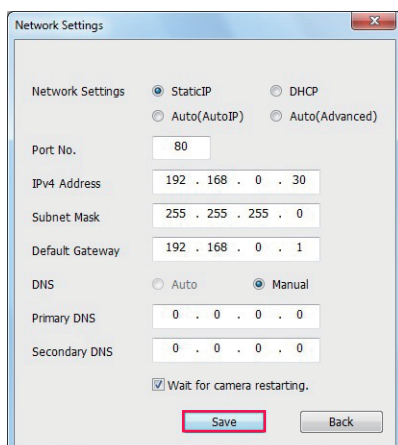

Fig. 3
**4** Enter each item for the network, and then click the [Save] button. (Fig. 3)